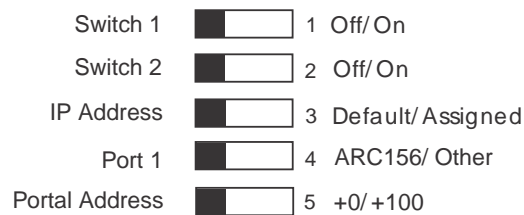

Figure 11. BACnet Portal DIP Switches
3. Set port 1 DIP switch to *ARC156* (see Figure 11).